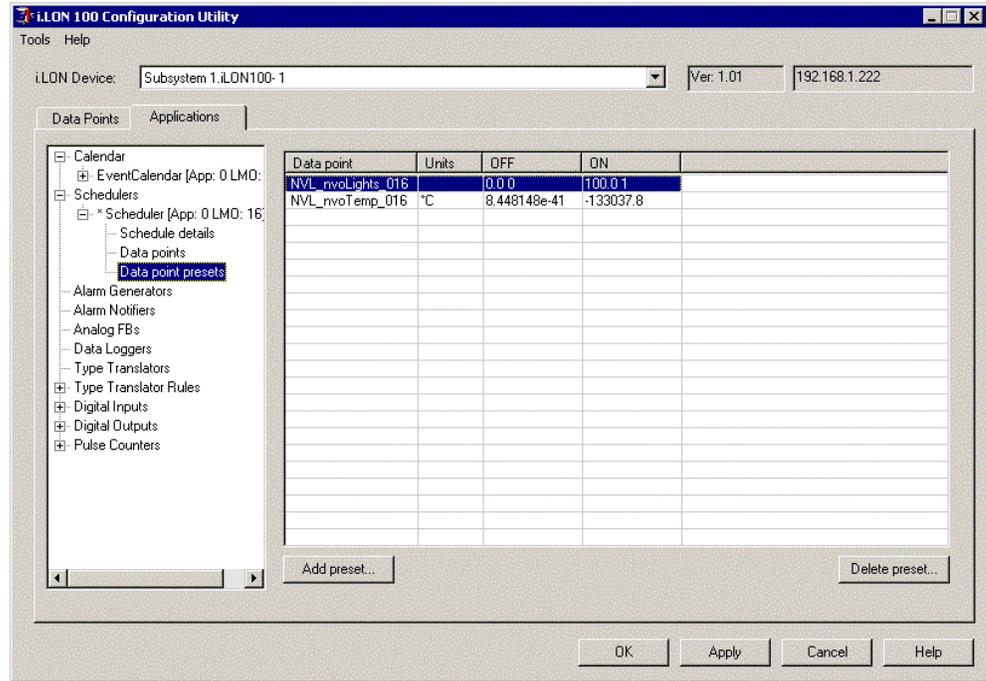

Figure 5.7 Data Point Presets Dialog
2. Under the appropriate **Scheduler** in the applications tab, select **Data Point Presets**. The **Data Point Presets** dialog opens, as shown in the Figure 5.7.